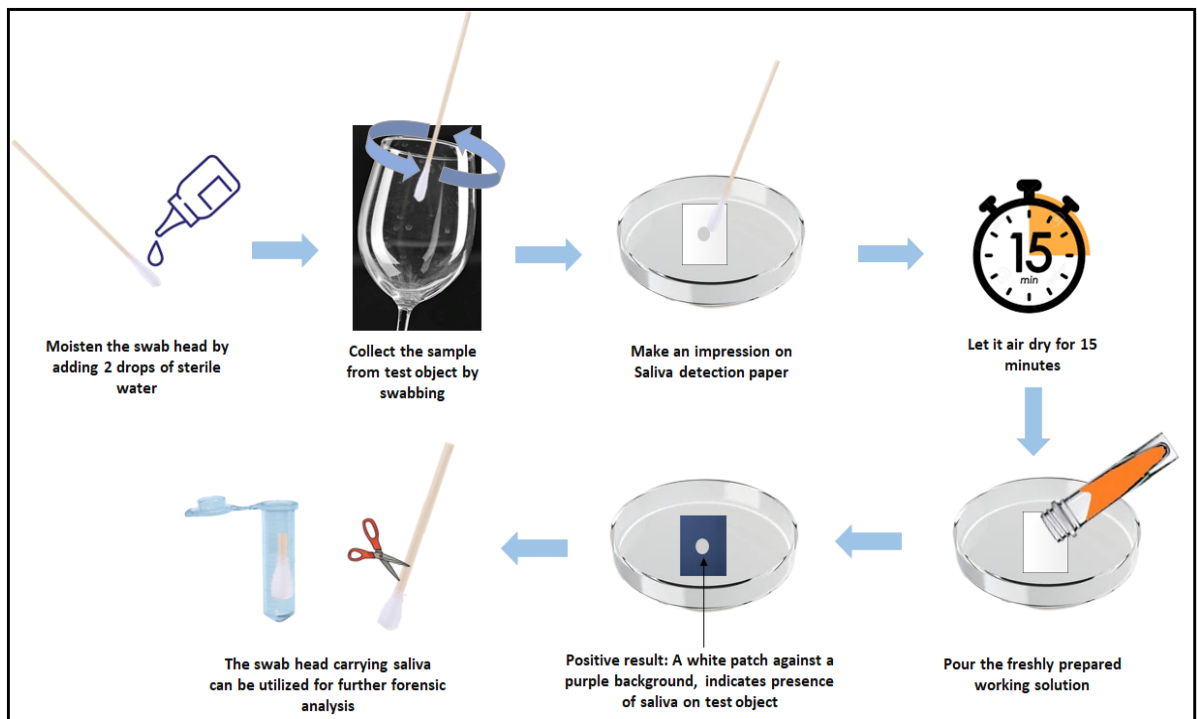

Fig 1. Schematic representation of saliva detection
3. Swab/wipe the suspected area/object with the wet swab (fig 1).
6. Pour the entire 1 ml of the prepared working solution onto the saliva detection paper at once, as shown in Fig 1.